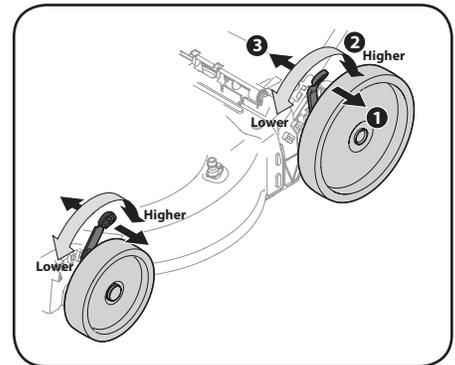

Figure 2-13
1. Pull the height adjustment lever towards wheel (unit will tend to fall when lever is moved outward). See Figure 2-13.